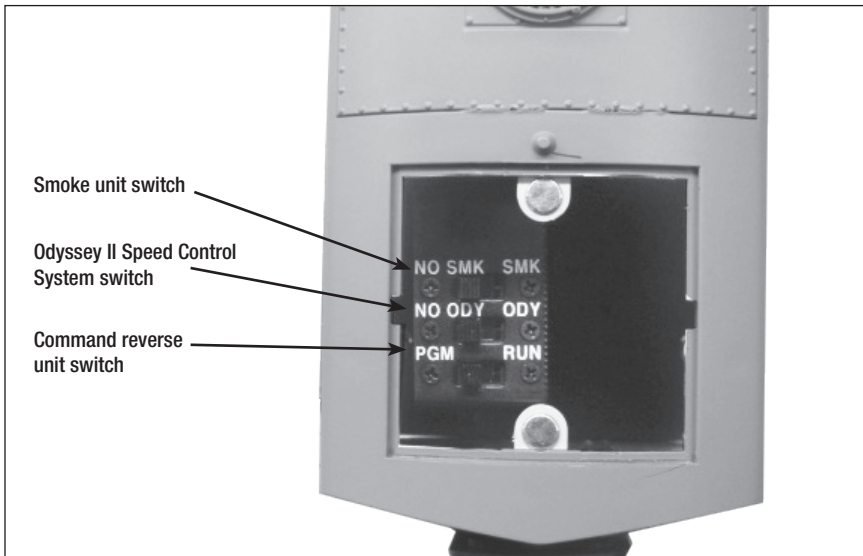

Figure 4. Switch locations
We recommend that you operate your LEGACY locomotive with Odyssey II Speed Control turned on. You may choose to operate your locomotive without speed control by placing the Odyssey II Speed Control System switch to the NO ODY position. See Figure 4 on page 8 for the location of the switch.
If you prefer to operate your locomotive without smoke, locate the smoke unit switch on the locomotive and slide it to the NO SMK position. Refer to Figure 4 on page 8 for the location of the switch.
The functions of your locomotive's switches are outlined below. Refer to Figure 4 for the location of the switches. *The instructions below are specific to this particular locomotive; note that available features (and switches) may differ from other locomotives and sets.*
1. Slide the Command reverse unit switch on your locomotive to the PGM position. See Figure 4 on page 8.